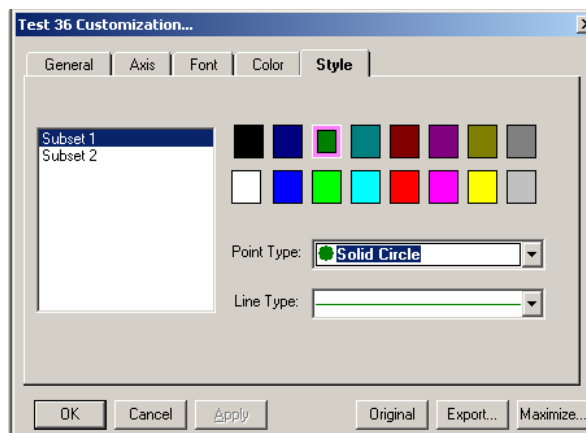

Figure 5-92 Customization Dialog Box—Style Tab
- **Style Tab**—use the Style tab for control of subset color, subset line type, and subset point type. See Figure 5-92.